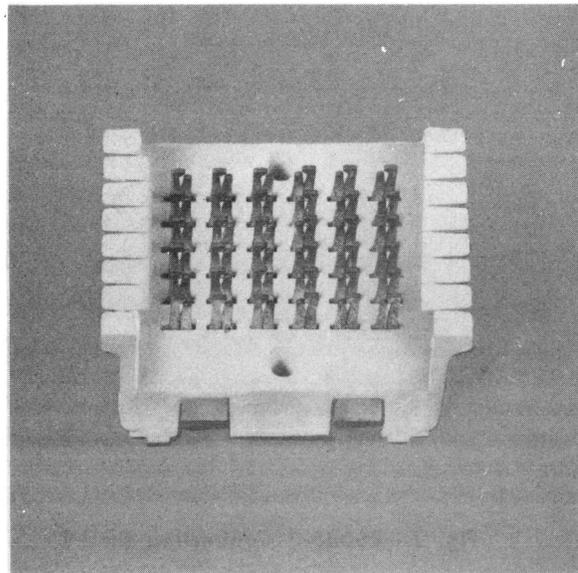

Fig. 8—66B3-6 Connecting Block
1.03 The 66B3-6 (Fig. 8) connecting block consists of a white plastic housing equipped with a snap-on cover and has six horizontal rows of 3-clip terminals. These connecting blocks will provide the point of connection between the Operating Telephone Company (OTC) facilities and/or terminations and the Other Common Carrier (OCC) facilities or equipment. The OTC provided facility will terminate on the left side of the block and the OCC portion will be terminated on the right side. The continuity between the two sides will be established via B or C bridging clips placed on the C and D rows of connecting block terminals.
66B3-6	White (Fig. 8)